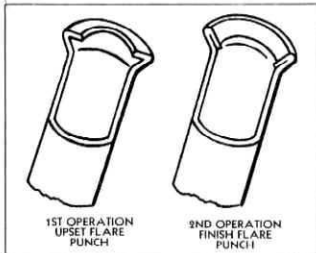

Fig. 15—Flaring Operation—First and Second Flare
7. To complete the flare, insert the finish flare punch and the ram into the tool body. Tap the ram until a good seat is formed (fig. 15).